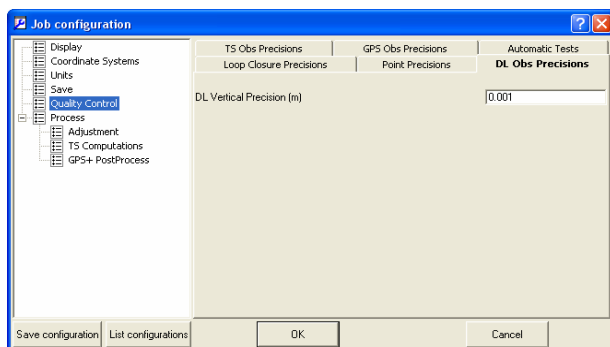

Figure 2-33. Job Configuration – DL Obs Tab
- The *DL Obs Precisions* tab sets precisions for digital level measurements (Figure 2-33). If the values of Ht Residual resulted from a net adjustment—with Rejection Criterion-By Control—are worse than the values set in this tab, the observations are highlighted in red on the *DL Obs* tab and Reports. These observations will no be used in the final adjustment of the net.
- The *Automatic Tests* tab sets which of the quality control tests to run instantly in the background and mark points and observations that fail the QC test in red (Figure 2-33 on page 2-22). Clearing any of the checkboxes will also clear red marks and textual descriptions on the QC tabs of the *Property* dialog boxes. When selecting a test, the test will first check existing data, then continue to run in the background. The following tests are available: